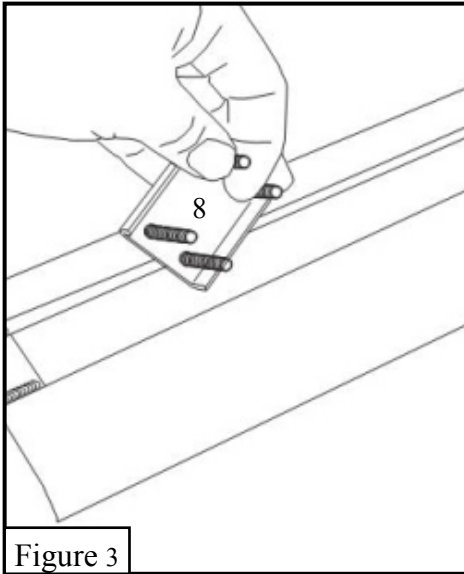

Figure 3
4. Slide mount adapter plates on step bars as shown. Place step bar on saddle with long pad forward and end cap screw facing inward. Assemble with M6 hardware. See Figures 3, 4, and 5. Reference installation sheet, 75-0820, Oval Tube Mount Adapter Kit.